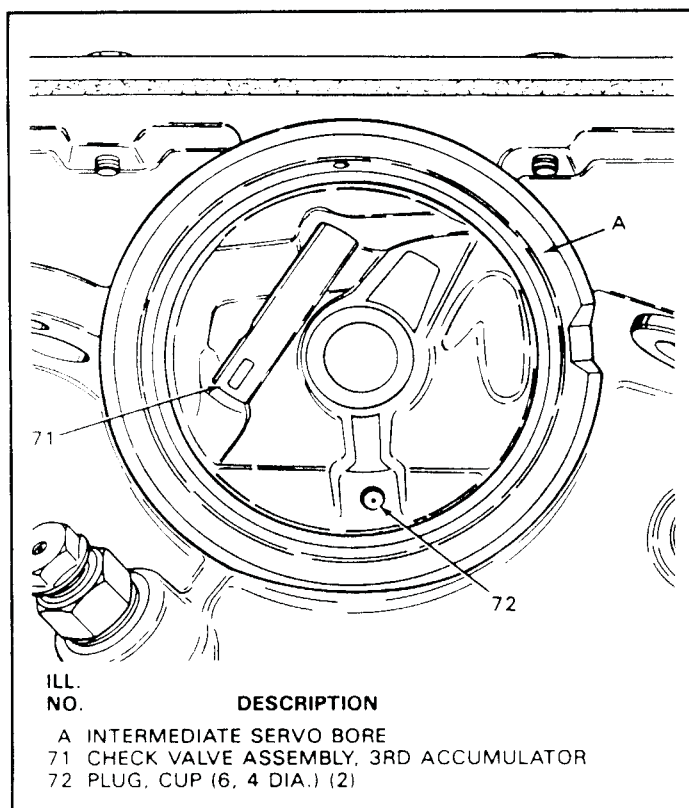

Figure 57
- Intermediate servo bore for porosity, damage, or burrs (See Figure 57).
- Inspect the orifice cup plug in servo bore for debris or any damage (See Figure 57).
4. The new assembly must be flush or below surface of the valve body, and oil feed slots in the tube must face the servo cover as shown in Figure 57.